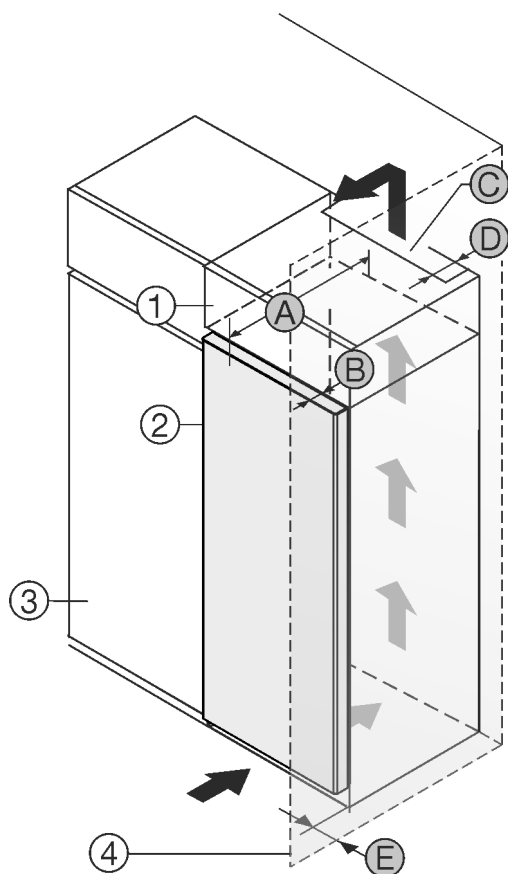

Fig. 1
Set up the appliance directly next to the kitchen cabinet Fig. 1 (3).*
There must be a ventilation shaft at the depth Fig. 1 (D) of the back of the top cupboard over the entire width of the top cupboard.*
The cross section of the ventilation gap Fig. 1 (C) must be maintained below the ceiling.*
If the appliance is installed with the hinges next to a wall Fig. 1 (4), the distance between the appliance and the wall must be at least 13 mm (0.51 in).*
In order to be able to fully open the door, the appliance must protrude by the depth Fig. 1 (B) of the door from the front of the kitchen cabinet. Regardless of the depth of the kitchen cabinets Fig. 1 (3) and use of wall spaces, the appliance can protrude further.*